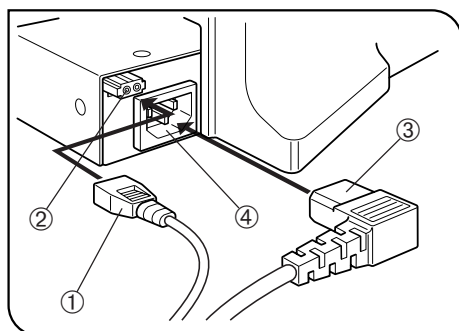

Fig. 36
(Figs. 36 & 37)
2. Connect the power cord connector ③ to connector ④ firmly. (Fig. 36)